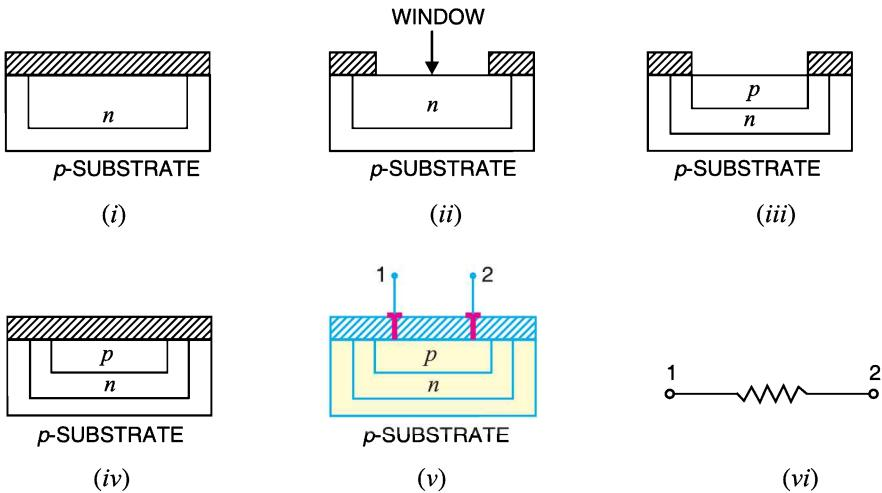

Fig. 23.8
**(iii) Resistors.** Fig. 23.8 shows how a resistor is formed on a portion of the substrate of a monolithic IC. For this purpose, the steps used for fabricating diode are carried out upto the point where *n* island has been formed and sealed off [Refer back to Fig. 23.5 (iii)]. This figure is repeated as Fig. 23.8 (i) and shall be taken as the starting point in order to avoid repetition.
A window is now formed at the centre of  $SiO_2$  layer, thus exposing the *n*-epitaxial layer as shown in Fig. 23.8 (ii). Then we diffuse a *p*-type material into the *n*-type area as shown in Fig. 23.8 (iii). The  $SiO_2$  layer is re-formed over the wafer by passing pure oxygen [See Fig. 23.8 (iv)]. The terminals are processed by etching  $SiO_2$  layer at two points above the *p* island and depositing the metal at these locations [See Fig. 23.8 (v)]. In this way, we get an integrated resistor. Fig. 23.8 (vi) shows the electrical circuit of a resistor.